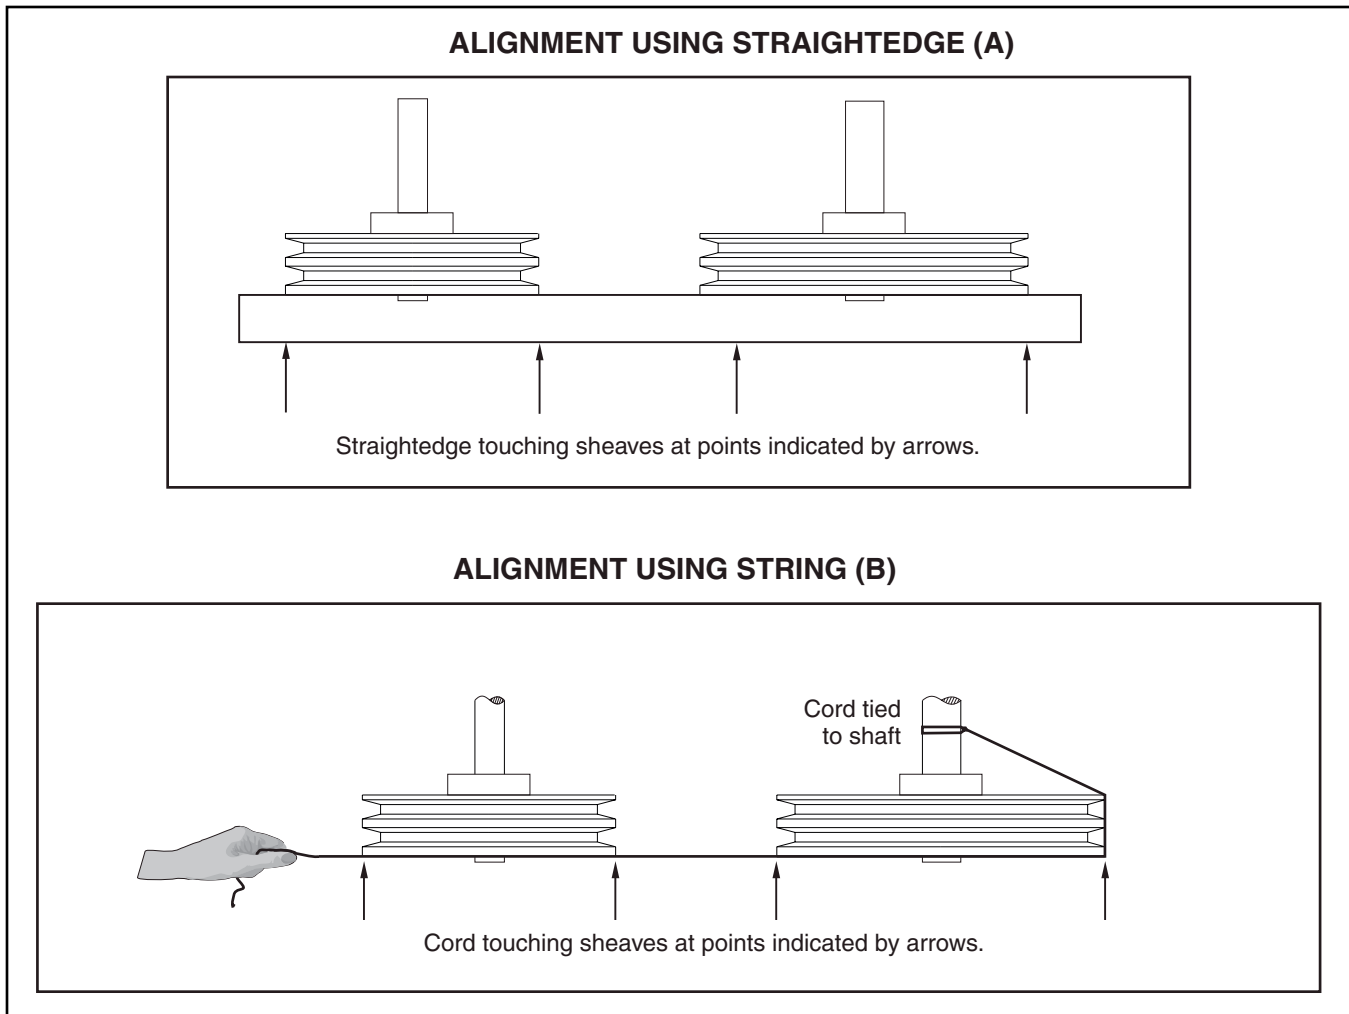

Figure 54 – Sheave Alignment
Sheave alignment and parallelism of shafts is very important. Proper alignment helps equalize the load across the entire belt width, thereby reducing wear and extending belt life. Figure 54 shows how to align a synchronous drive properly using a straightedge (A) or a piece of string (B).
Place a straightedge against the outer edge of the sheaves. Figure 54 (A) shows the four points where the straight edge should touch the sheaves. The straight edge should cross the sheaves at the widest possible part of the sheave.
Tie a string around either shaft and pull it around and across the outer edge of both sheaves. Figure 54 (B) shows how the string should touch four points when the drive is properly aligned.